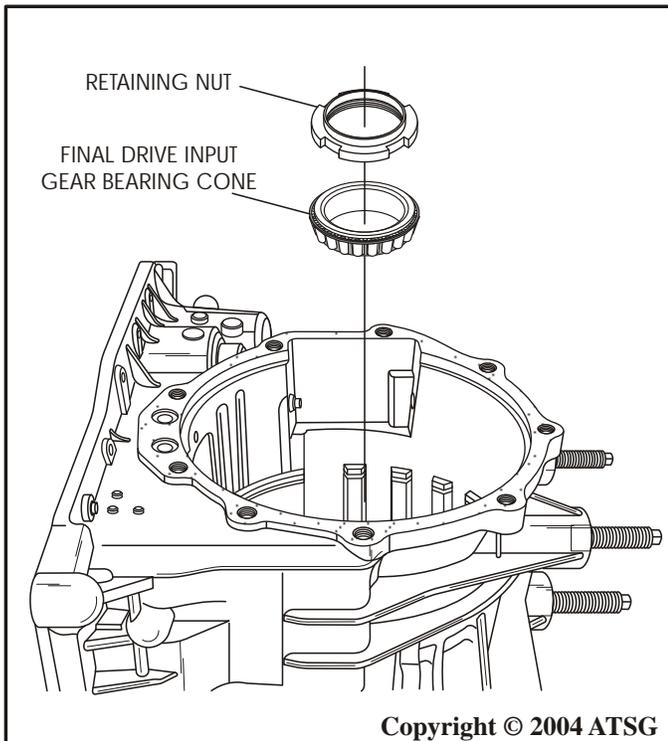

Figure 125
31. Rotate the transaxle 180 degrees again so that end cover side is facing up (See Figure 125).
32. Install the new final drive input gear bearing cone, as shown in Figure 125.
33. Install a **new** final drive input bearing retainer nut, as shown in Figure 125.